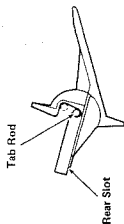

FIG. 3
2. Push tab forward until tab rod is positioned as shown by dotted circle in Fig. 3.
3. Push firmly upward on tab until tab rod locks into position, as shown by solid circle in Fig. 3.